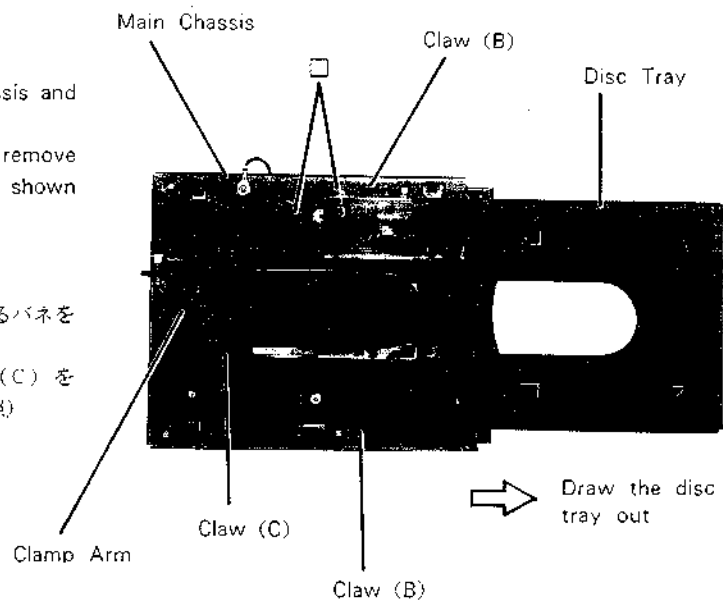

Figure 9
- (3) Spread two claws (B) toward outside at the both sides of the disc tray and draw out the disc tray as shown in Figure 9.
- (2) After pulling out the disc tray forward, remove the clamp arm by pressing one claw (C) as shown in Figure 9.
- (1) Remove one belt and two screws marked "□" as shown in Figure 9.